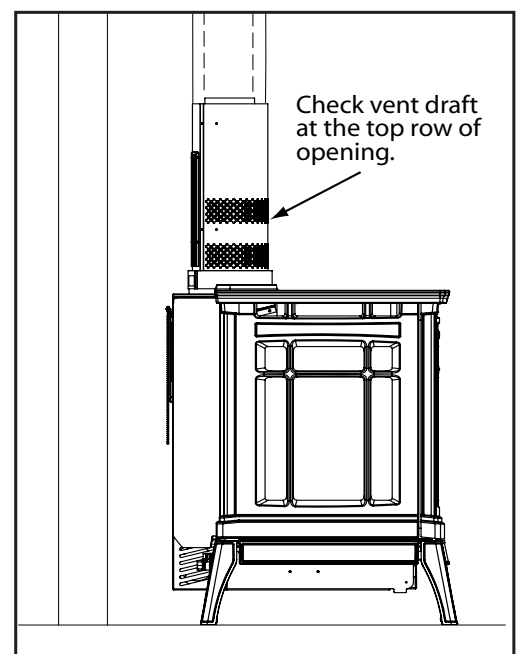

Figure 36: Draft test place.
4. After a minimum of 10 minutes operation, test the chimney draft with a smoke match at the top row of the pattern to confirm that there is adequate draft or 'pull' at the openings around the body of the Drafthood Adaptor, as shown in Figure 36.